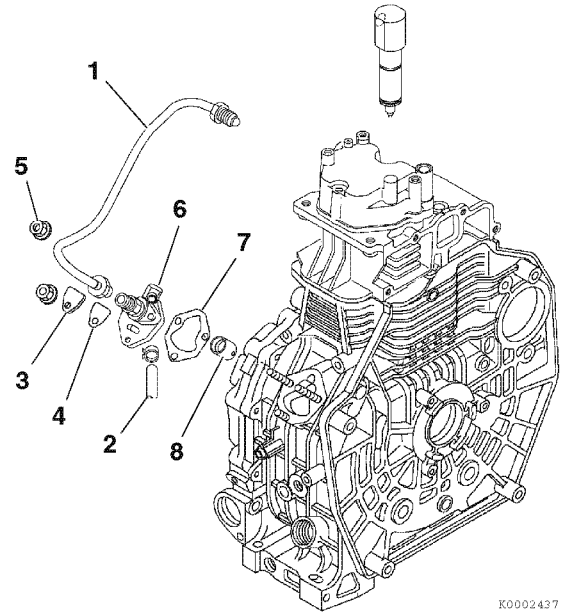

Figure 7-15
1. Clean the areas around the fuel injection pump (6, **Figure 7-15**) and fuel injector.
3. Remove the high-pressure fuel injection line (1, **Figure 7-15**). Use care not to bend the line.
4. Remove the fuel supply line (2, **Figure 7-15**).
6. Remove the three nuts (5, **Figure 7-15**) fastening the fuel injection pump into the cylinder block.
7. Remove the inspection cover (3, **Figure 7-15**) and gasket (4, **Figure 7-15**).
9. Remove the shim(s) (7, **Figure 7-15**). Use care not to bend or damage the shim(s).
10. Remove the fuel injection pump tappet (8, **Figure 7-15**) from the crankcase. The tappet may stay in the cylinder block. You can remove it with your finger. Inspect the face or roller end of the tappet for damage or abnormal wear. See *Tappet* on page 6-47.